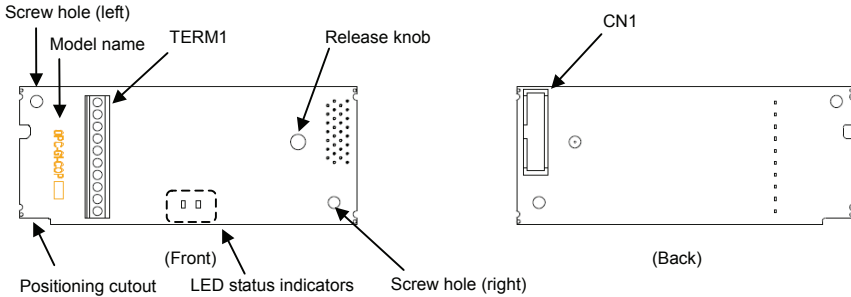
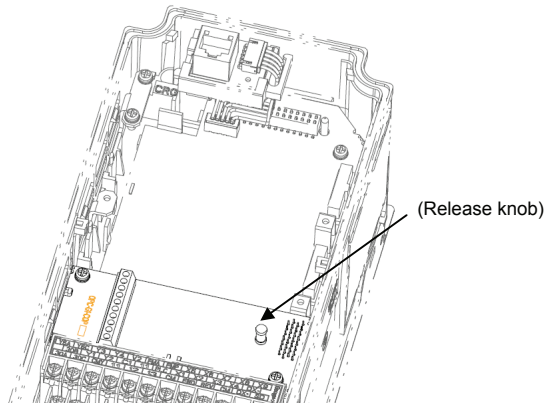

Figure 2.1 Names of Parts on CANopen Communications Card
Figure 3.3 Mounting Completed (on A-port)
- (1) A communications card, two screws (M3 × 8), and the CANopen Communications Card Instruction Manual (this manual) are contained in the package.
- (2) The communications card is not damaged during transportation—no defective parts, dents or warps.
- (3) The model name "OPC-G1-COP" is printed on the communications card. (See Figure 2.1.)
Figure 2.1 shows the names of the parts on the CANopen communications card.
- (2) Insert connector CN1 on the back of the communications card (Figure 2.1) into the A-port (CN4) on the inverter's control PCB. Then secure the communications card with the two screws that come with the card. (Figure 3.3)
**Note** Check that the positioning cutout (shown in Figure 2.1) is fitted on the tab (① in Figure 3.2) and connector CN1 is fully inserted (② in Figure 3.2). Figure 3.3 shows the communications card correctly mounted.
- (3) Perform wiring to the communications card.